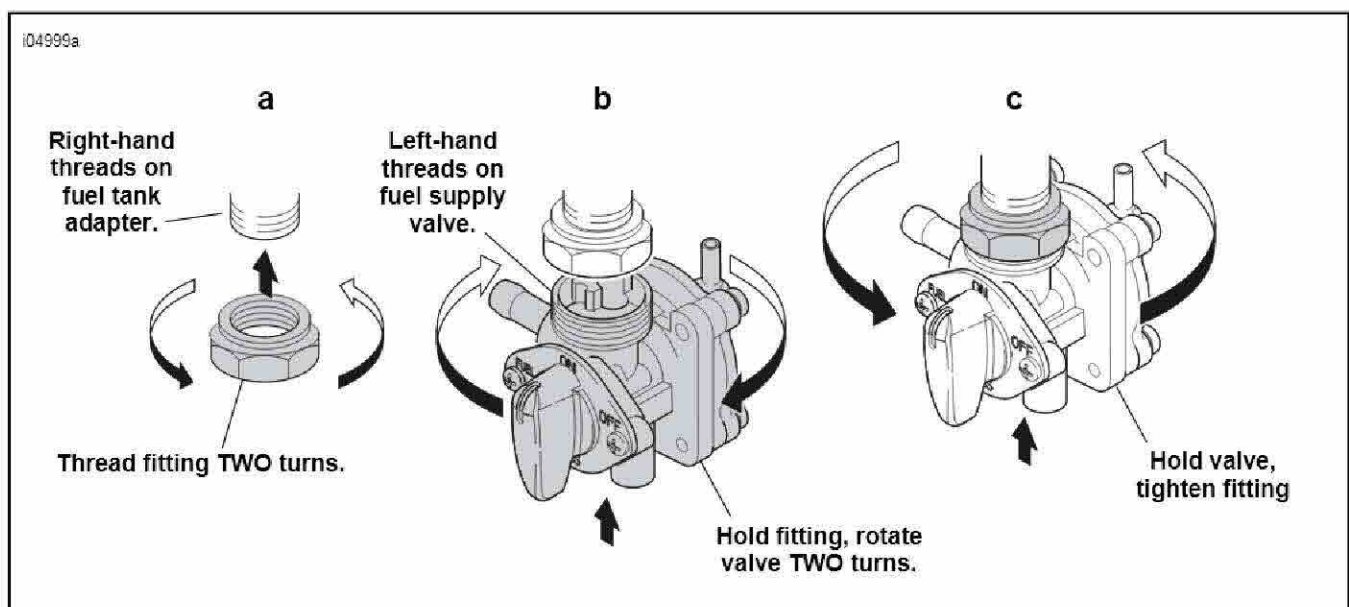

Figure 2. Attaching the Fuel Supply Valve to the Tank
3. See Figure 2. Attach the fuel supply valve to the tank in this sequence.
- a. Thread the new fuel valve fitting (3) from the kit onto the right-hand threads of the fuel tank adapter for two turns.